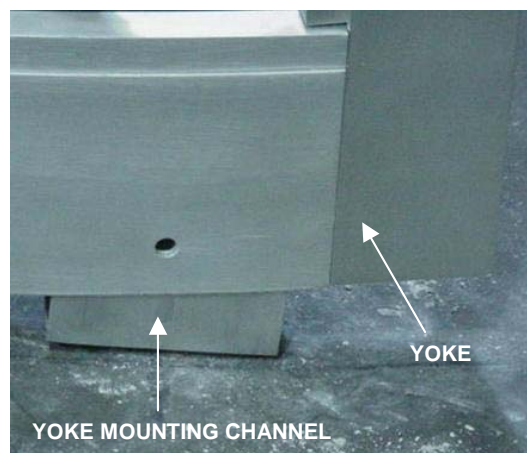

Figure A.6 - Positioning the half yoke sections on the yoke mounting channels.
20. Position the half yoke sections on the yoke mounting channels (See **Figure A.6**). Verify that the ends of the two half yoke sections are still flush together.
Be sure to orient the half yoke sections such that the threaded aluminum block ends of each half yoke are together along the turnstile centerline. (See Figure A.6).